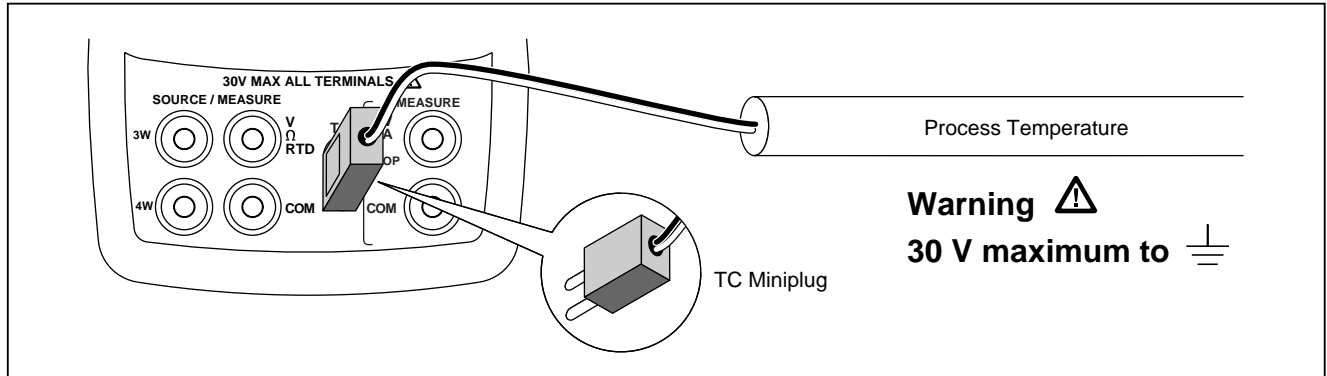

Figure 9. Measuring Temperature with a Thermocouple
1. Attach the thermocouple leads to the appropriate TC miniplug, then to the TC input/output as shown in Figure 9.